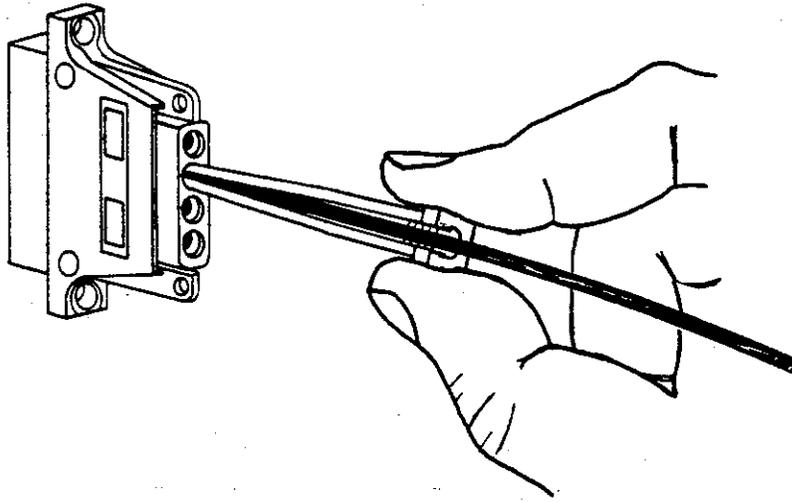

Figure 5-5. Pushing Removal Tool into Rear of Connector
4. Slowly and carefully push the tool into the rear of the connector (Figure 5-5).